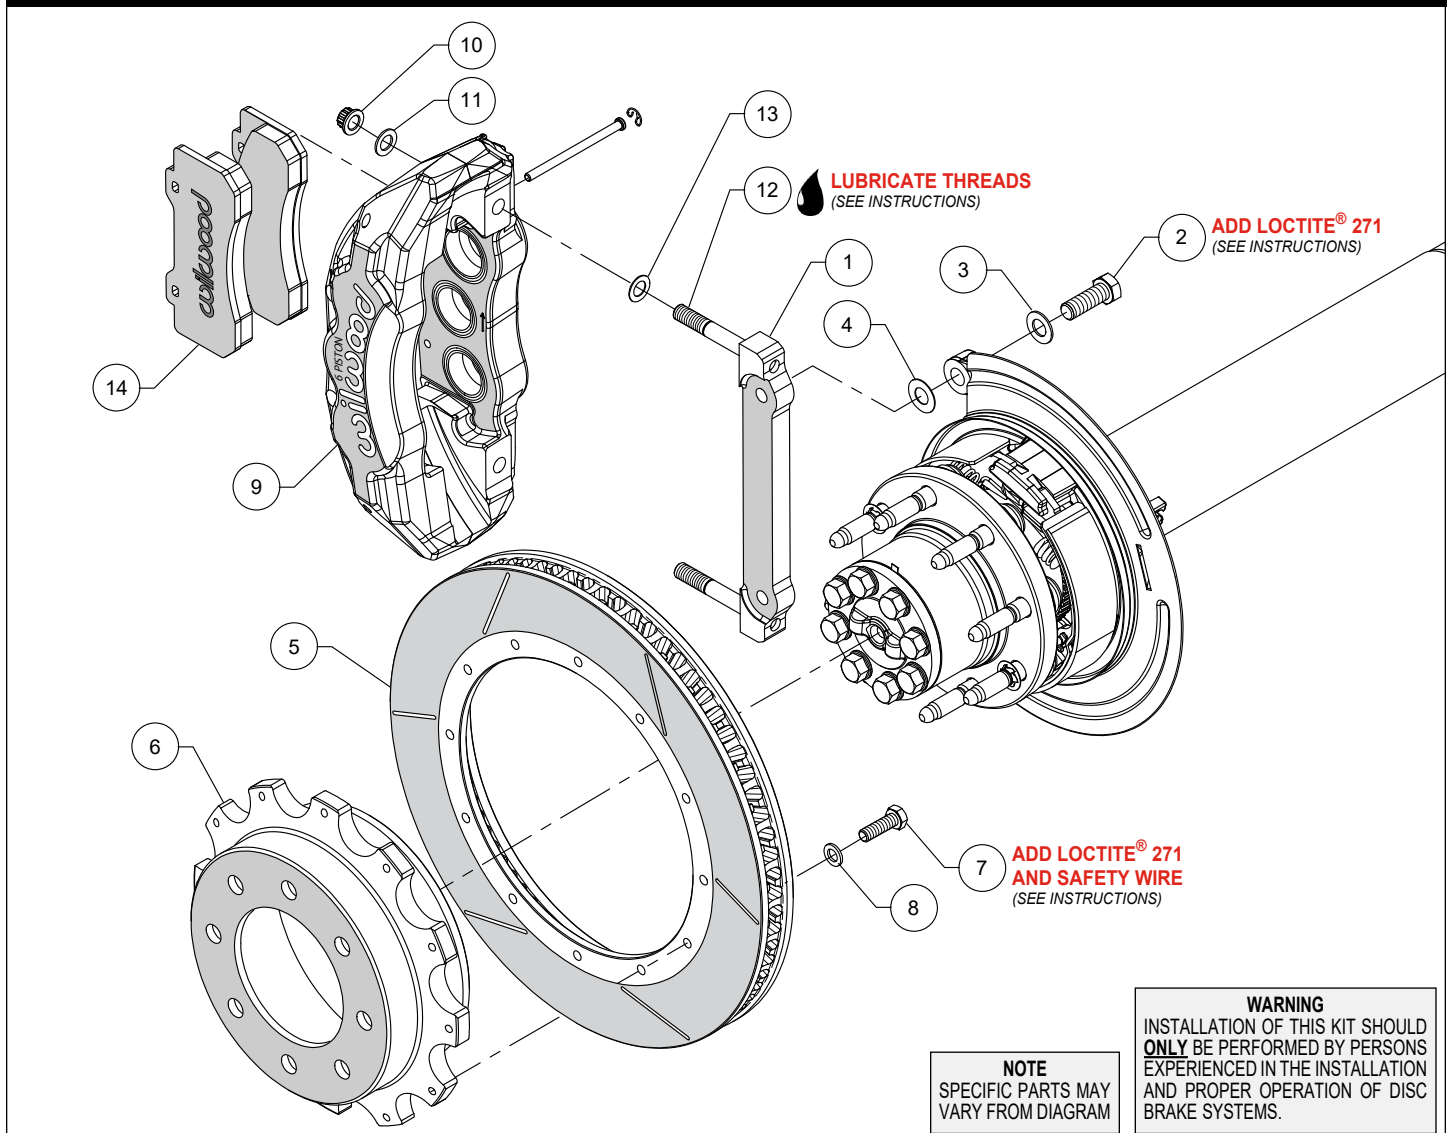
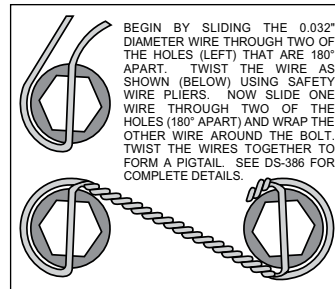

Figure 1. Typical Installation Configuration
Figure 3. Safety Wire Diagram
NOTE: Numbers in parenthesis refer to the parts list and Figure 1 on the preceding pages.
- The caliper mount bracket (1) should initially be installed with clean, dry threads on the mounting bolts. Orient the bracket as shown in Figure 1 and Photo 1, and install using bolts (2) and washers (3). Initially place one .029 thick shim (4) on each bolt between the bracket and upright, Figure 1. Temporarily tighten the mounting bolts. **NOTE:** *The bracket must fit squarely against the mount bosses on the upright.* Inspect for interference from casting irregularities, machining ridges, burrs, etc. Later, after the caliper alignment has been checked, the mount bolts will be secured using red *Loctite*® 271.
- Orient the rotor (5) and the hat (6) as shown in Figure 1 and Photo 2. Attach rotor to hat using bolts (7) and washers (8). Apply red *Loctite*® 271 to the bolt threads and torque to 25 ft-lbs using a criss-cross pattern. The bolts must be safety wired using standard 0.032 inch diameter stainless steel safety wire as shown in Figure 3. Please refer to Wilwood's data sheet DS-386 (available at www.wilwood.com/Pdf/DataSheets/ds386.pdf) for complete safety wire installation instructions.
- NOTE:** *This kit contains distinct right and left hand calipers that must be mounted in a specific direction, as described below.* Lubricate the caliper mounting studs (12) with lightweight oil. Initially place one .032" thick shim (13) on each stud as shown in Figure 1 and Photo 3. Mount the caliper (9) onto the bracket (1) using lock nuts (10) and washers (11), Figure 1. Ensure that the caliper is mounted so that the largest pistons are at the rotor exit end of the caliper, in relation to the direction of rotor rotation. Temporarily tighten the lock nuts and view the rotor through the top opening of the caliper. The rotor should be centered in the caliper, Photo 4. If not, adjust by adding or subtracting shims (4) between the bracket and the upright. Always use the same amount of shims on each of the two mounting bolts. Once the caliper alignment is correct, remove the bracket mounting bolts (2) one at a time, apply red *Loctite*® 271 to the threads, and torque to 77 ft-lb.